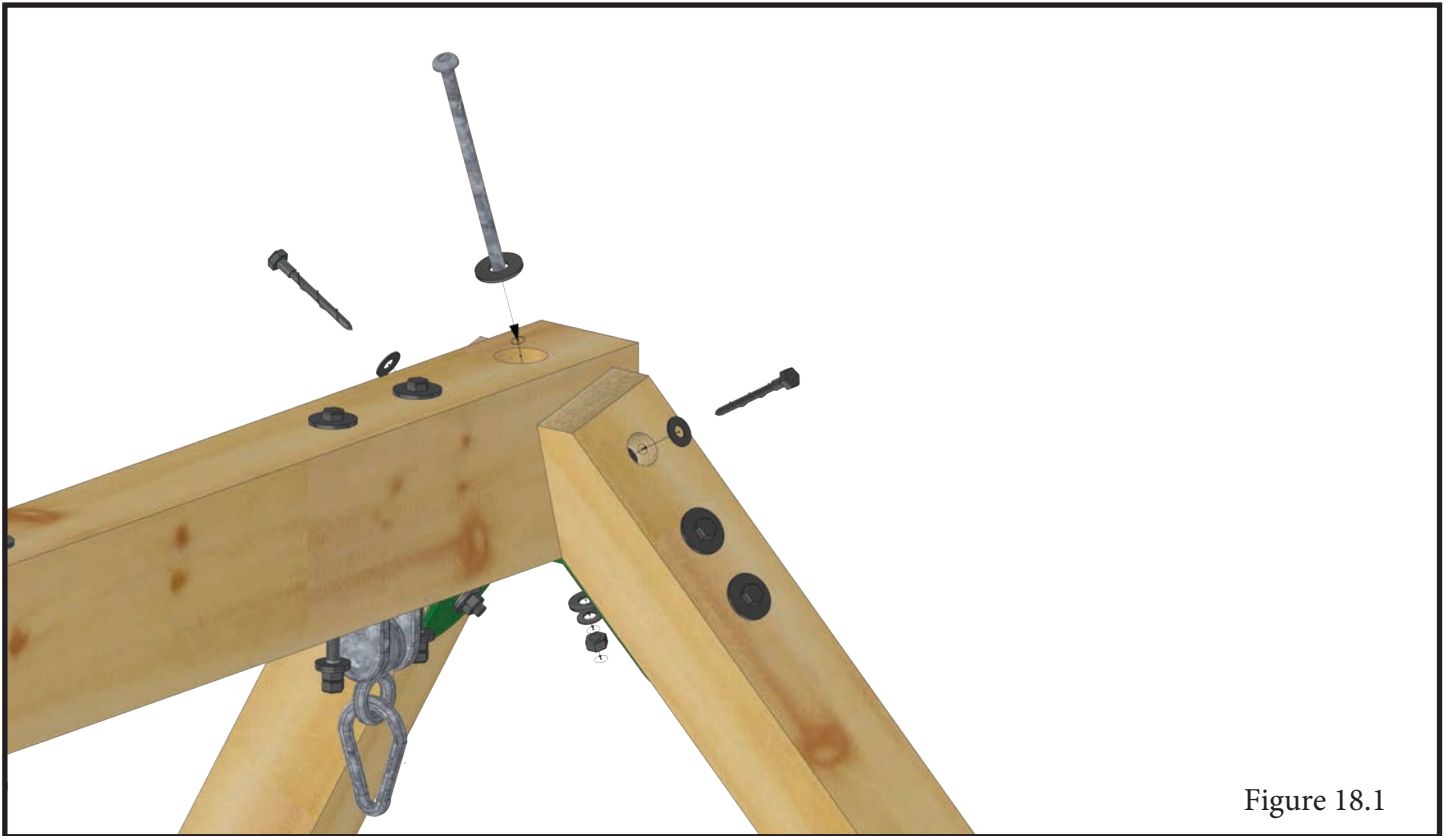

Figure 18.1
18.3 Fasten the top of the Swing Legs into the Swing Beam with 5/16" x 3" Lag Bolts with 5/16" washer as shown in Figure 18.1.